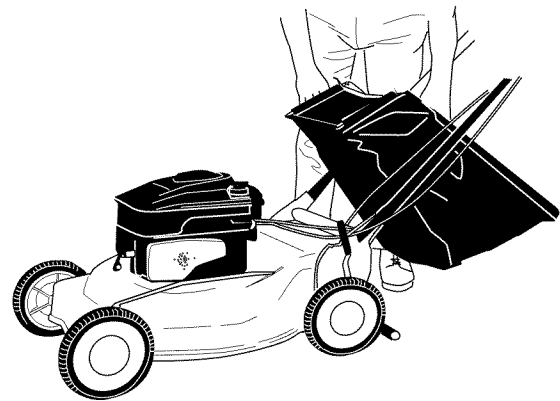

Figure 11
- Lift the grass bag up and away from the mower. See Figure 11. Dump the grass clippings at the appropriate disposal site.